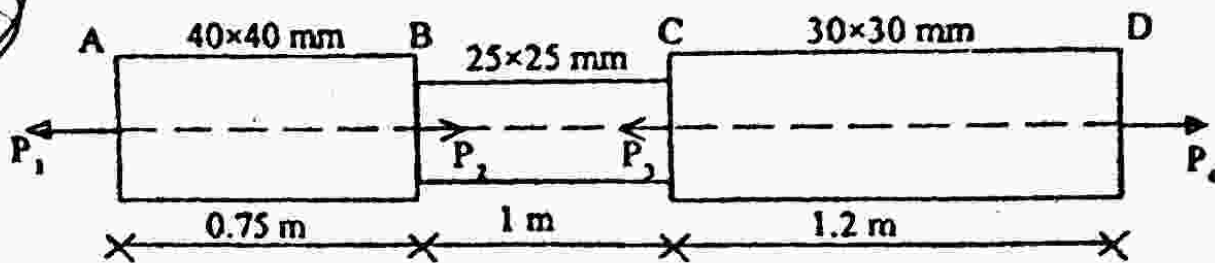

Fig. 1
1. (a) Draw stress-strain diagram for MILD STEEL under tension and explain salient points. (7)
- (b) A member ABCD is subjected to point loads P_1 , P_2 , P_3 and P_4 as shown in fig. 1. Calculate the force. P_3 necessary for equilibrium if $P_1 = 120$ kN, $P_2 = 220$ kN and $P_4 = 160$ kN. Determine also the net change in length of the member. Take $E = 2 \times 10^5$ N/mm². (7)